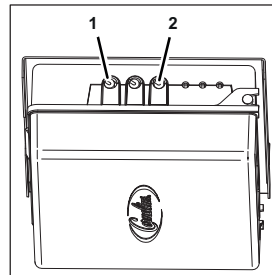

Fig. 84
5. Turn the compressor switch (Fig. 84/2) to position "I".
6. Turn the carbonator pump switch (Fig. 84/1) to position "I".